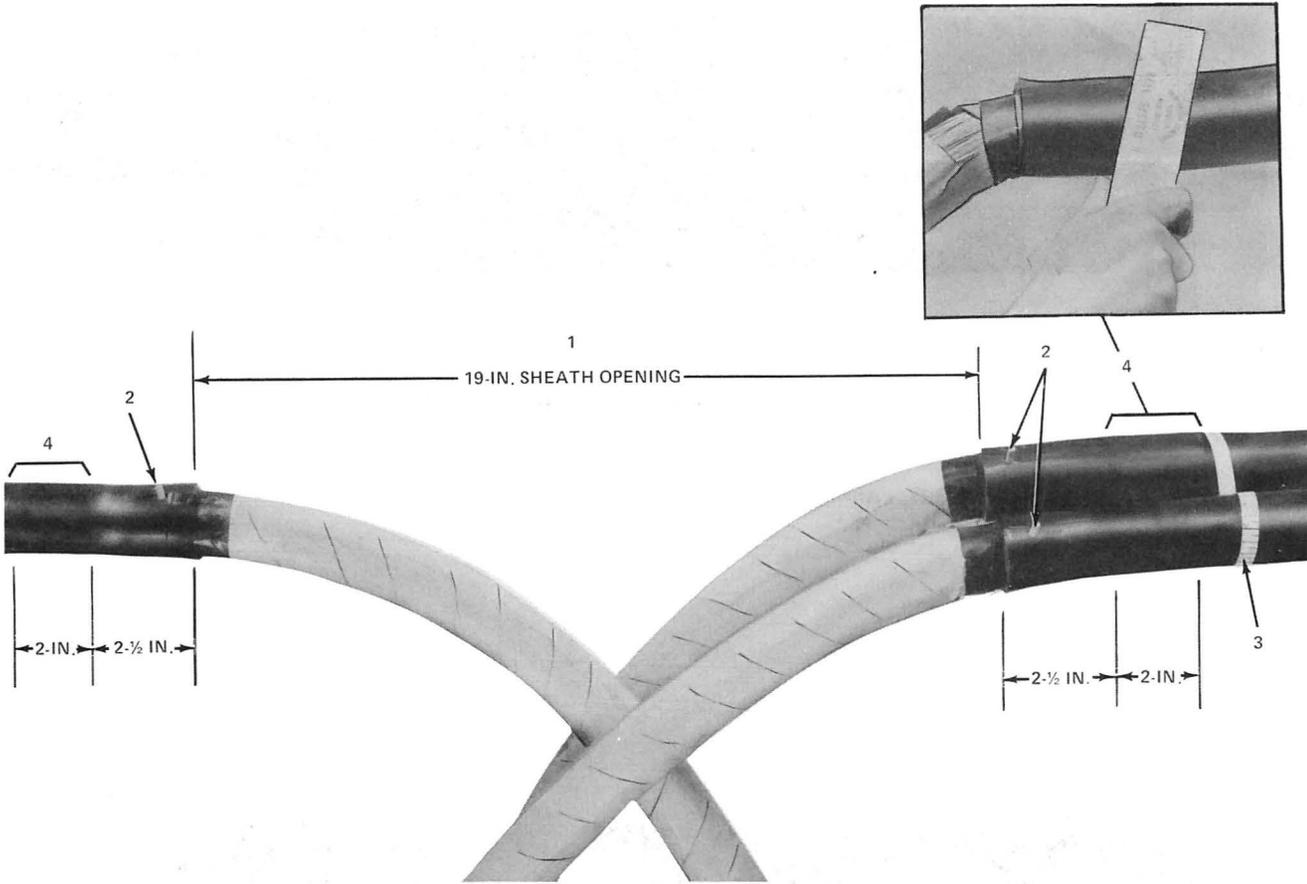

Fig. 18—Preparation of Cable Sheath
3.03 Prepare cable sheaths and install 51-type closure as outlined in Fig. 18 through 22.